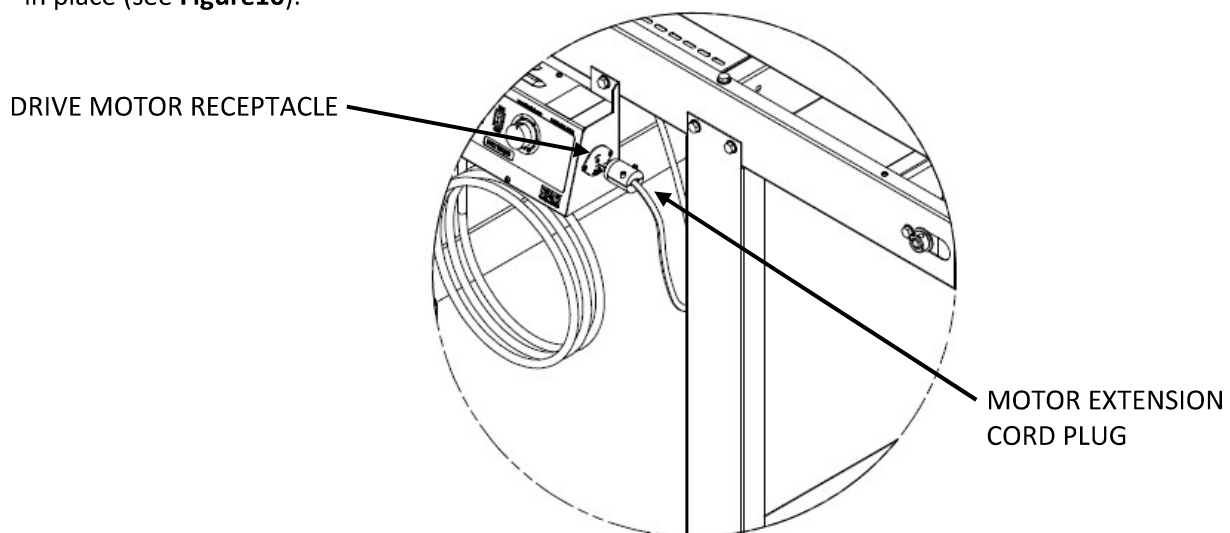

Figure 10
2. Insert **DRIVE MOTOR PLUG** into **MOTOR EXTENSION CORD RECEPTACLE**. Twist plug to lock in place. Insert **MOTOR EXTENSION CORD PLUG** into **DRIVE MOTOR RECEPTACLE** on the **CONTROL PANEL**. Twist plug to lock in place (see **Figure 10**).